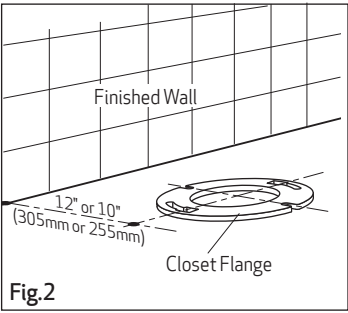

Fig.2
1. It is important for installation of the Caravelle Smart 1 PC washdown toilet that the closet flange be accurately set out from the finished wall as detailed in Fig.2.